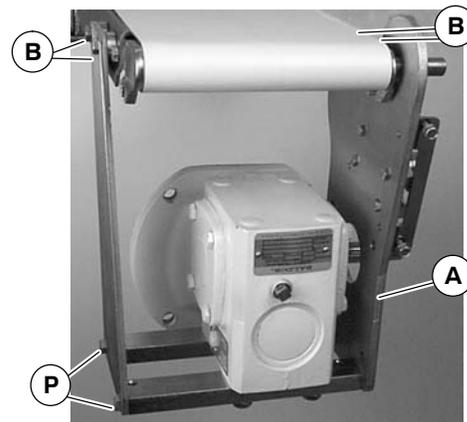

Figure 4
- 4a. For 4" (102mm) and wider conveyors, loosen (but do not remove) screws (P of Figure 4). Attach bottom mount assembly (A) to conveyor with screws (B). Tighten screws (B) and (P) to 92 in-lb (10.4 Nm).